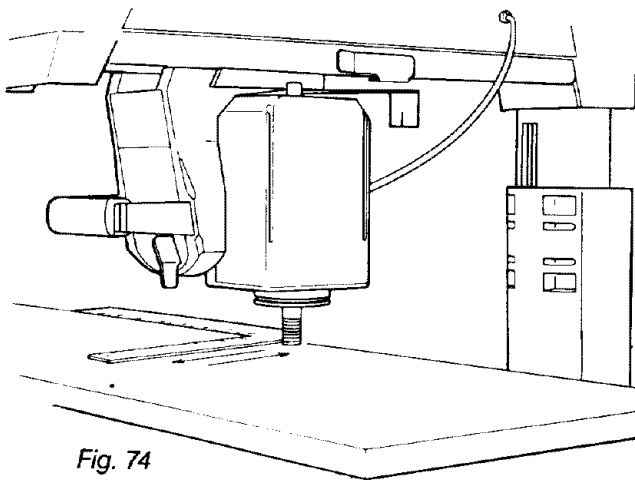

Fig. 74
7. Lay a framing square on the *front table* with the long edge along the back of the *table* and the short edge alongside the *motor arbor*. (Figure 74)
8. Move the framing square toward the *motor arbor* until the arbor and square touch each other. (Figure 74)
If the *motor arbor* moves away from the square or tries to “walk” on top of it, go to step 11. (Figure 74)